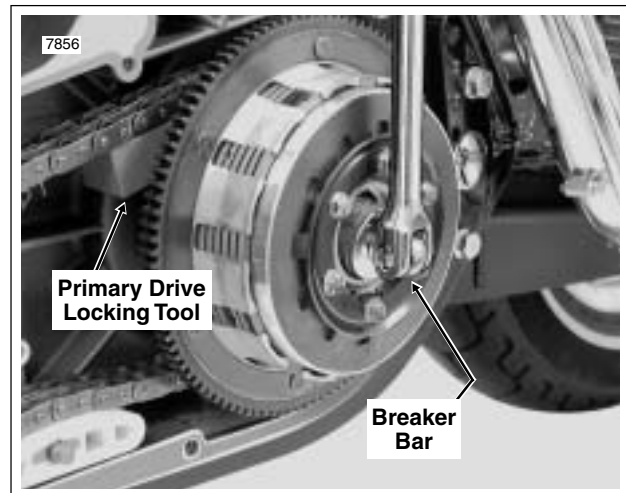

Figure 6-30. Place Primary Drive Locking Tool
- Reverse the position of the primary drive locking tool. With the flat side against the upper strand of the primary chain, insert stepped side of tool into teeth of clutch sprocket. Using a breaker bar and 1-3/16 inch socket, turn the clutch hub mainshaft nut in a clockwise direction until loose. See Figure 6-30.